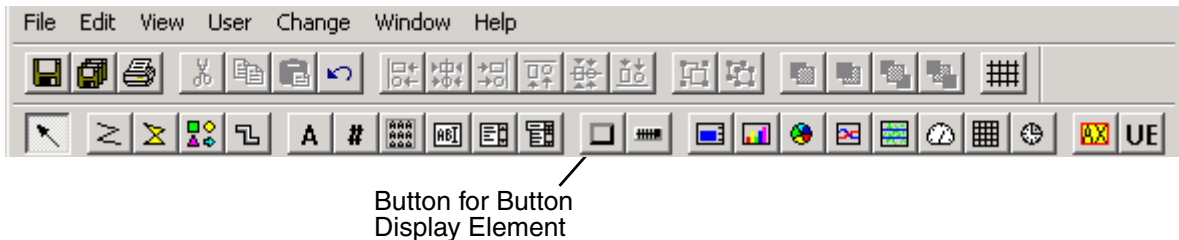

Figure 31. Button Button
7. Insert a Button display element to the left of the Edit display element. The Button button on the tool bar is shown in Figure 31.